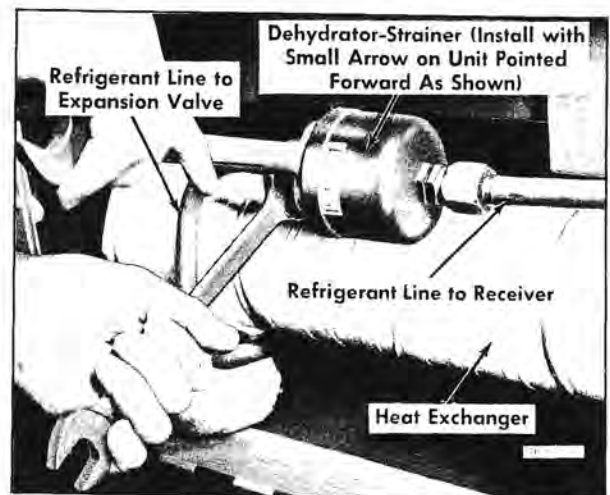

Figure 128—Replacing Dehydrator-Strainer
2. Referring to figure 128, remove old unit in manner shown. CAUTION: Do not twist refrigerant lines; use two wrenches as shown.